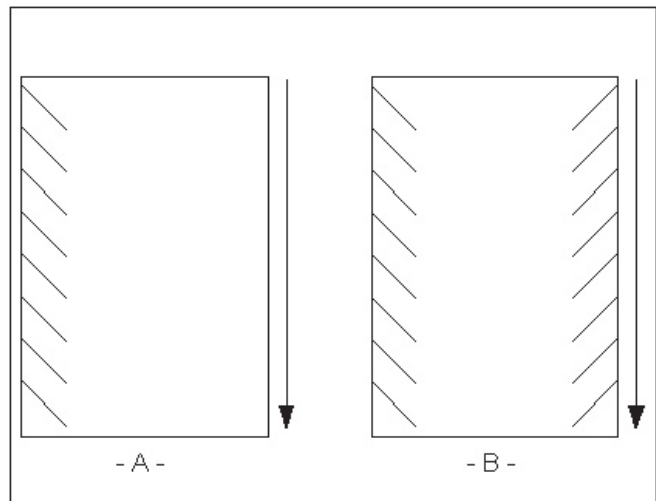

Fig 45
5. **Angled waves in the output (Figure 45 A & B).**